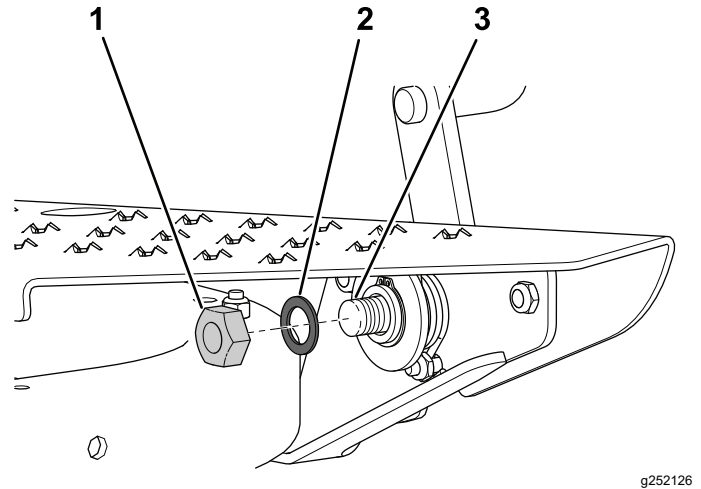

Figure 9
8. Secure the locking pedal to the footrest and the hub assembly with a flat washer (5/8 x 1 inch) and locknut (5/8 inch); refer to Figure 9.